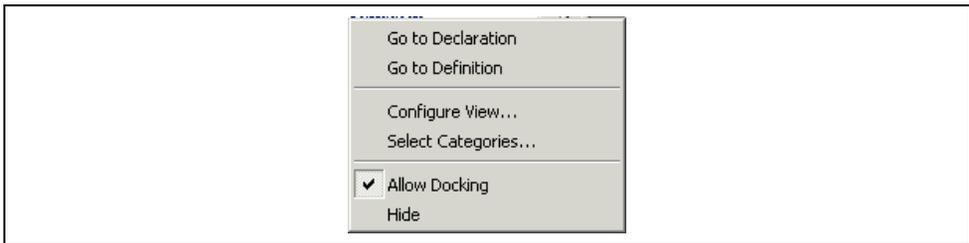

Figure 13.2: C++ Navigation pop-up menu
1. Right click on the Navigation window. The pop-up menu displayed in figure 13.2 is shown.
1. Right click on a C++ navigation item in the navigation window. The pop-up menu displayed in figure 13.2 is shown.